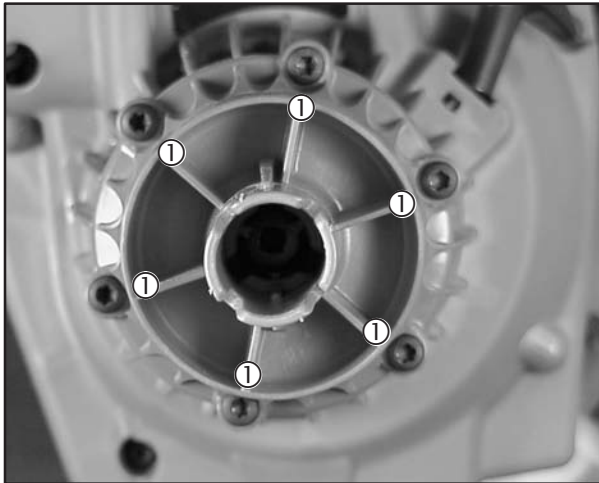

Fig. 7
1. Remove 6 screws (1) and clutch housing cover, Fig. 7.